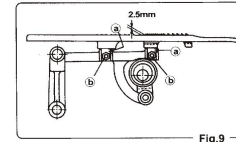

Fig. 9
Adjust the height of the feed dog so that it protrudes 2.5 mm from the upper surface of the throat plate when the feed dog has risen to the highest position, as shown in (Fig. 9). If the feed dog is higher than this, stitch will not chain satisfactorily, and if it is lower than this, the stitch width will be too small. Slacken nut ⑩ with a box spanner to adjust the height of the feed dog. It is important to adjust the height with set screw ⑨ to ensure that the pressure from the presser foot should not force it back down. Tighten nut ⑩ when the adjustment is correct.